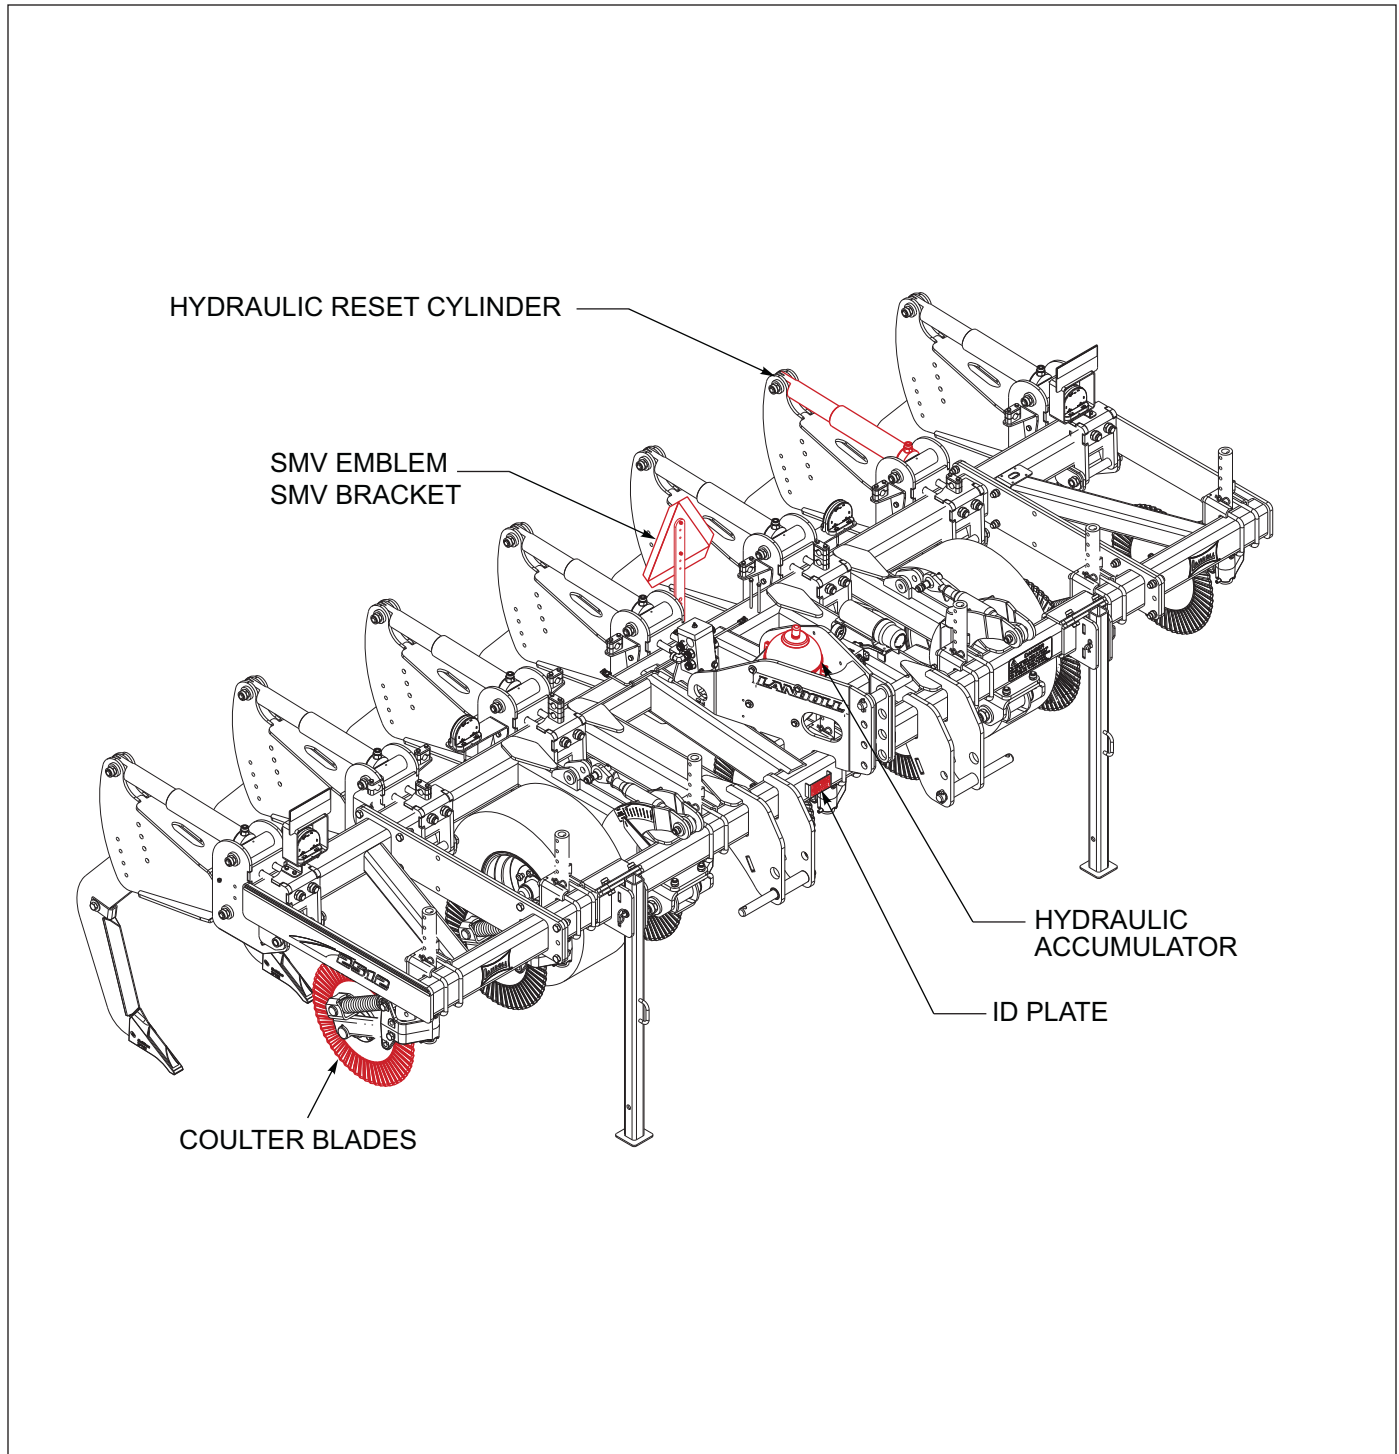

Figure 3-3: 2512 Series Parts Identification
1. Attach the SMV mounting bracket at a point where emblem is visible from rear of machine, using U-Bolt and 5/8-11 flange head serrated nuts (See Figure 3-3.)